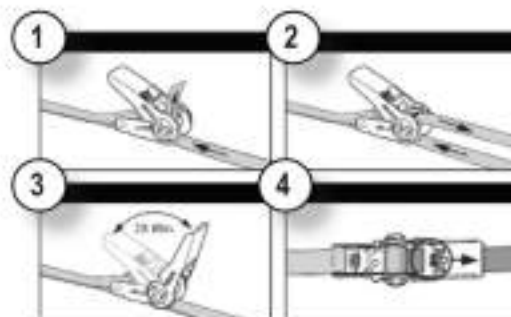

Figure 49.
STEP 9: After reaching the top of the ladder immediately attach yourself to the tree with your full-body fall arrest tether to the tree trunk as shown in Figure 47. Now you can place the ratchet strap around the tree hooking one end to the left side of the tree blade and the other end to the right side of the tree blade and ratchet tight as shown in Figure 48. Ratchet threading instructions may be found in Figure 49. NOTE: Do not put any of your weight on the seat until the seat assembly ratchet strap has been secured.